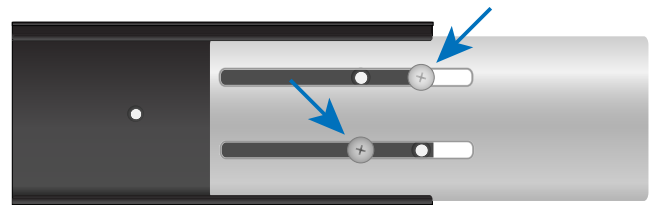

Figure 2.1h
9. After securing the rear rail extension to your rack, secure the rail extension to the rail using two of the included M5 pan head screws as shown in **Figure 2.1h**.